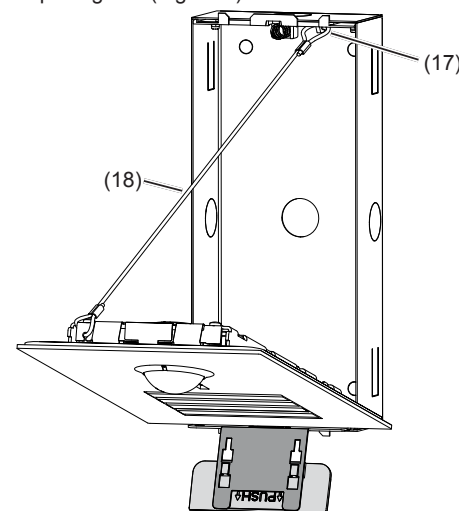

Figure 6: Installation position of door station
(16) Opening tool
(17) Fixing element
- Attach the loops of the safety rope (17) to the upper left suspension of the door station and to the upper fastening element (16) in the housing. Place the door station for installation onto the opening tool (Figure 6).